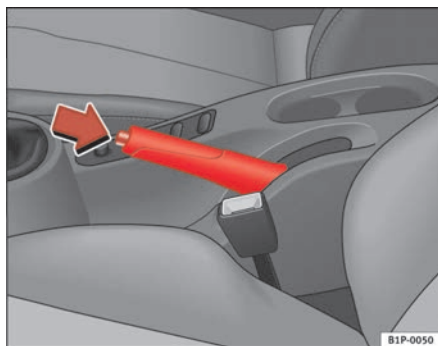

Fig. 125 Handbrake between the front seats
- Pull the handbrake lever up firmly ⇒ fig. 125.
- Pull the lever up slightly and press the locking knob in the direction of the arrow ⇒ fig. 125 and guide the handbrake lever down fully ⇒ .